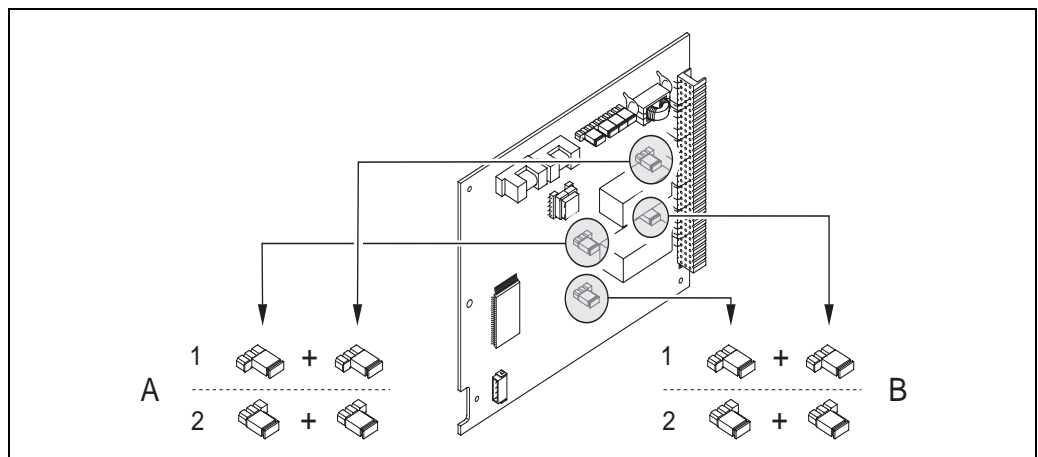

Fig. 55: Configuring relay contacts (NC/NO) for the fixed module board.
3. Position jumpers → Fig. 55, Fig. 56